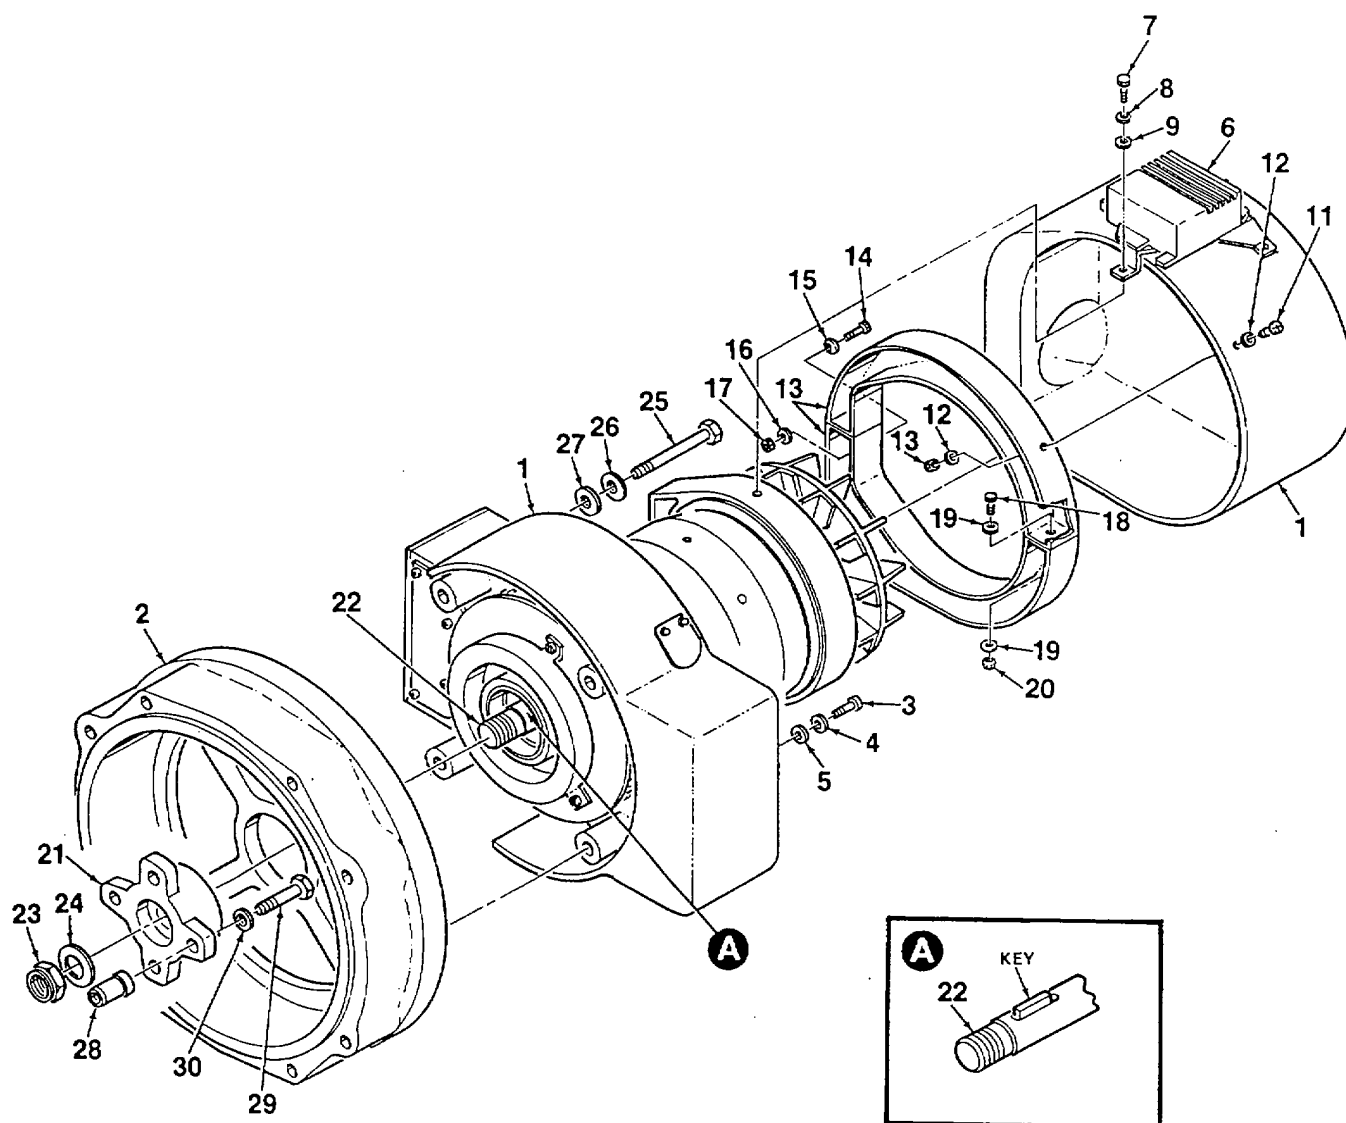

Figure 5-10. Alternator
2. Install four sleeves (28, Figure 5-10), screws (29), and washers (30) onto metal flex coupling (21).
3. Mate flywheel housing (2) to alternator and secure using four screws (25), washers (26), and lockwashers (27).
4. Install flex coupling (21) onto alternator shaft (22) so that keyway is aligned over key. Secure by tightening coupling setscrew. Install nut (23) and washer (24).
5. Install mounting blocks (13) over alternator fan and secure using screws (18), washers (19), and nuts (20). Install screw (14), washers (15, 16), and locknut (17) into lower mounting bracket.
6. Install voltage regulator (6) onto alternator using screw (7), washer (8), and lockwasher (9).
7. Fit alternator fan shroud (10) onto mounting blocks (13) and secure using six screws (11), washers (12), and nuts (13).
8. Fit flywheel shroud (1) onto alternator and mate to flywheel housing (2). Secure using two screws (3), lockwashers (4), and washers (5).